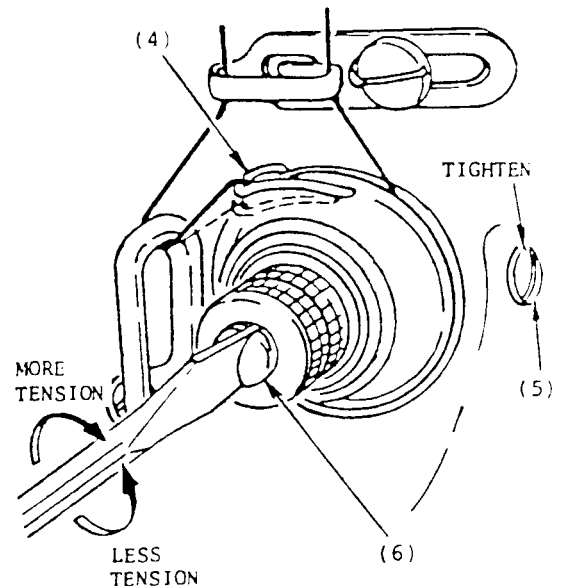

Fig. 4
Thread the machine. Securely tighten set screw (5), Fig. 4. Make certain thumb nut is on stud (6), Fig. 4.
Tension on check spring (4), Fig. 4, should be sufficient to ensure action at top speed; but still light enough to permit itself to be drawn all the way down (as take-up lever approaches height of stroke) before any thread is drawn through the tension discs.